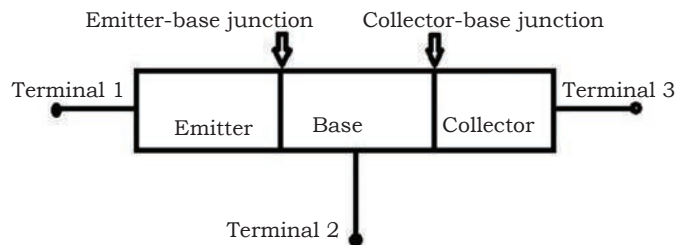

Fig. 2.30 Emitter-base (EB) and collector-base junction
- Emitter to base is one PN junction (diode) and base to collector is another PN junction (diode) as shown in Fig. 2.30.